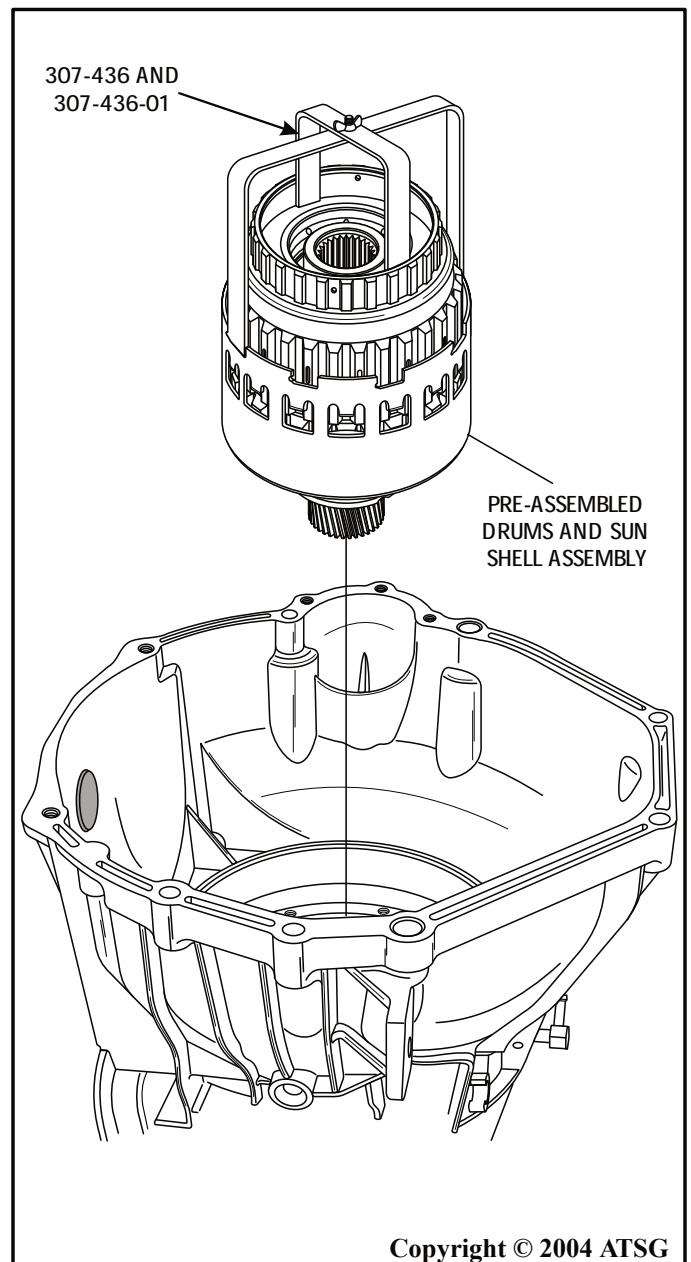

Figure 169
13. Install the pre-assembled drums and sun gear shell assembly, as shown in Figure 169, using the special tools and rotating into position to engage the sun gear into the rear planetary.